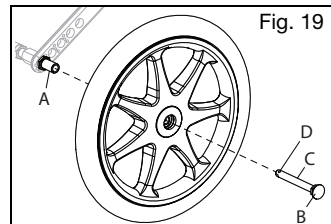

Fig. 19
- a. Push in the quick release button (Fig. 19:B) on the axle (Fig. 19:C) to allow the locking balls to retract. Make note of the difference between the extended and depressed position of the axle release button and its effect on the locking balls (Fig. 19:D) on the other end of the axle.
- c. Push on the quick release button again and slide the axle into the axle sleeve (Fig. 19:A).